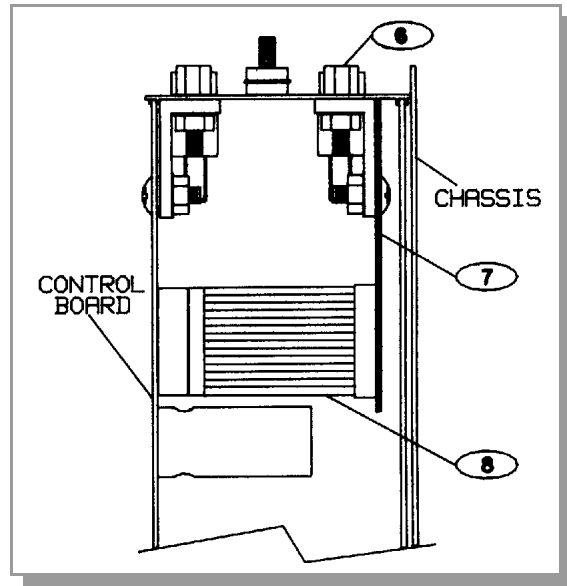

Figure 1-3 Remote Input/Output Option.
The Remote Input/Output Module (Figure 1-3) is a small printed circuit board assembly, (7), which attaches within the right-rear section of the control unit. Mechanical attachment to the rear panel is via the two jackposts (6), which fasten the connector to the panel in the same manner as the connector on the larger board is fastened. Electrical connection is via a short ribbon cable (8), terminated with a 14-pin dual-in-line plug. The components of the two printed circuit boards should end up facing each other.